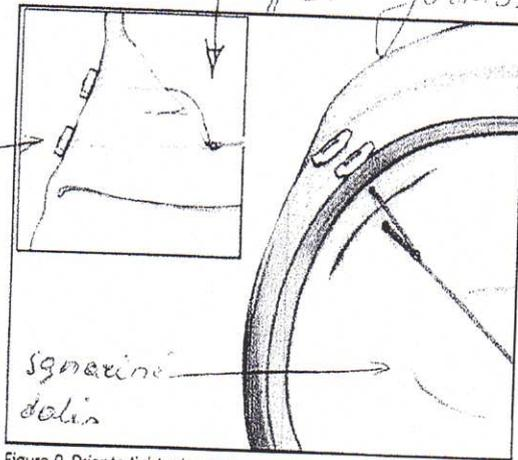

Figure 9. Prior to tightening suture construct
6. Remove the delivery needle from the knee, leaving the free end of the suture. Pull the free end of the suture to advance the sliding knot and reduce the meniscal tear (Figure 9, Photos 10 and 11). It is normal to encounter considerable resistance as the knot is snugged down. It is important to pull the free end of the suture in a line directly perpendicular to the tear site.